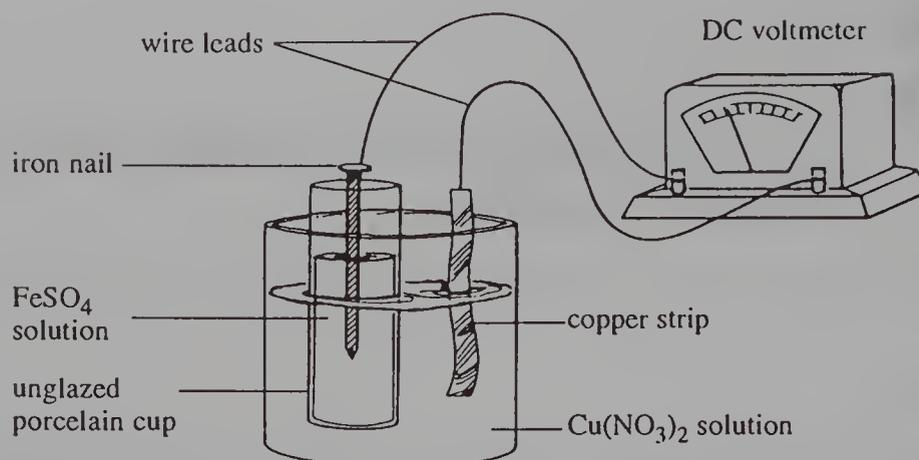

Figure 25-1. Apparatus for Measurement of Cell Potentials
When studying oxidation-reduction reactions it is convenient to separate the two half-reactions from one another. This is accomplished using the experimental setup shown in Figure 25-1. The porous cup is necessary to complete the electric circuit by allowing electrical contact between the two solutions while keeping the solutions separate from one another. If the  $\text{Cu}(\text{NO}_3)_2$  solution were allowed to come into contact with the iron nail, reaction [25.4] would occur directly. If they are separated by the porous cup, the electrons produced by half-reaction [25.1] travel from the iron nail through the wire to the copper strip where half-reaction [25.2] occurs. Reaction [25.4] is the resulting overall reaction.
The setup of Figure 25-1 can be used to measure the voltage, or potential, of the cell reaction [25.4]. This potential changes if a zinc strip is used in place of the iron nail and  $\text{ZnSO}_4$  solution is used in place of the  $\text{FeSO}_4$  solution. Each half-reaction has a distinct potential associated with it and the potential of a cell is the sum of these half-cell potentials.
2. Allow the two test tubes to stand while you set up the apparatus shown in Figure 25-1 for the measurement of cell potentials. Note the color of the solutions every five minutes during the following 15-min period.